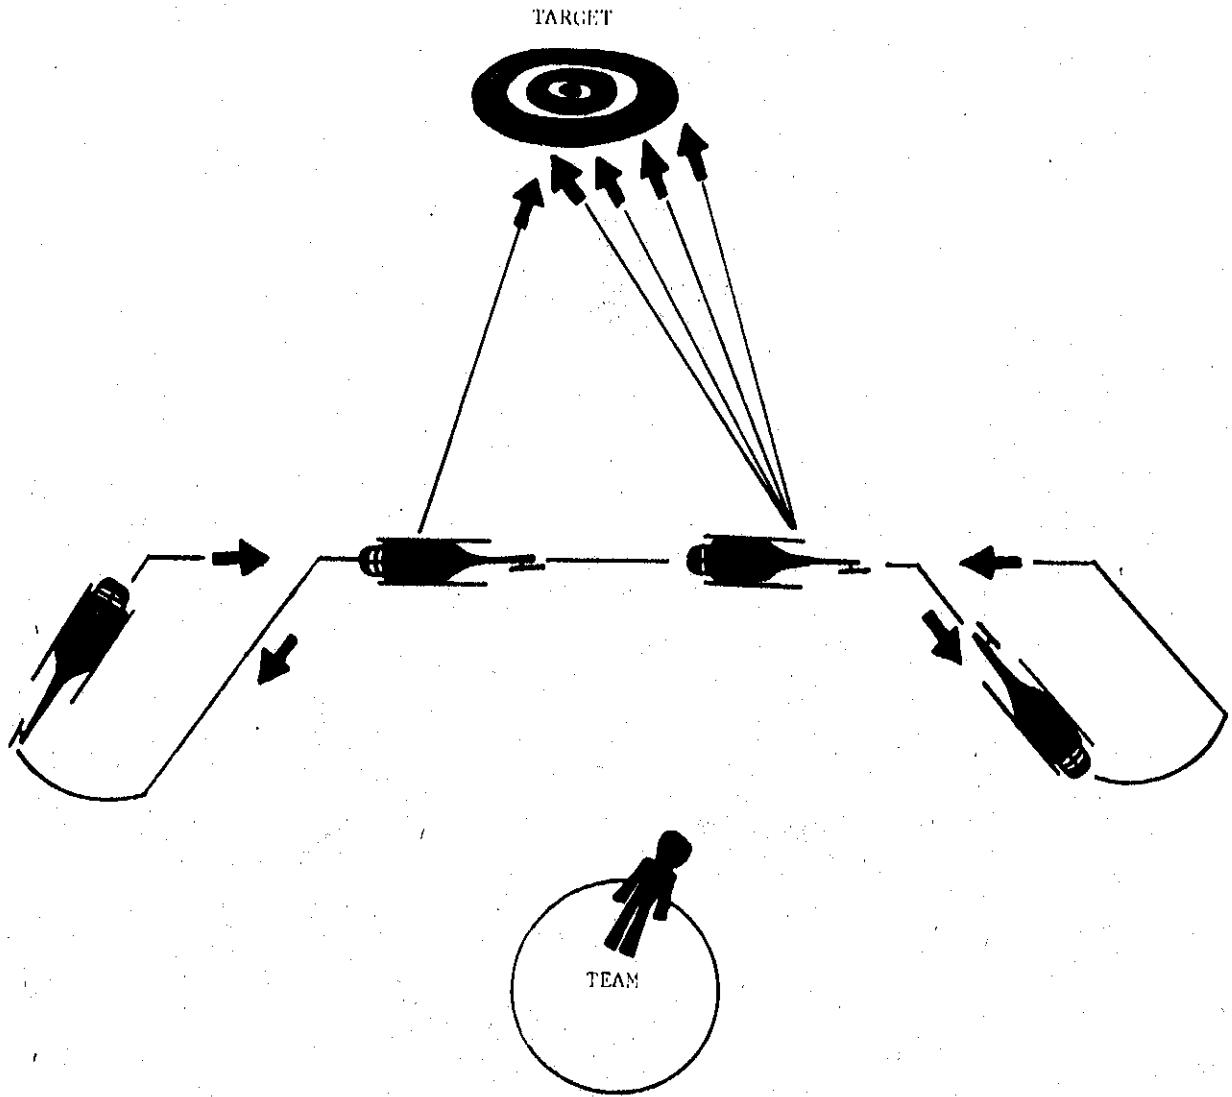

Figure 29-3. Dogbone Pattern.
e. Dogbone Pattern (figure 29-3). An effective pattern designed to place protective fire between the team on the move and a pursuing hostile force.
(1) Advantages: